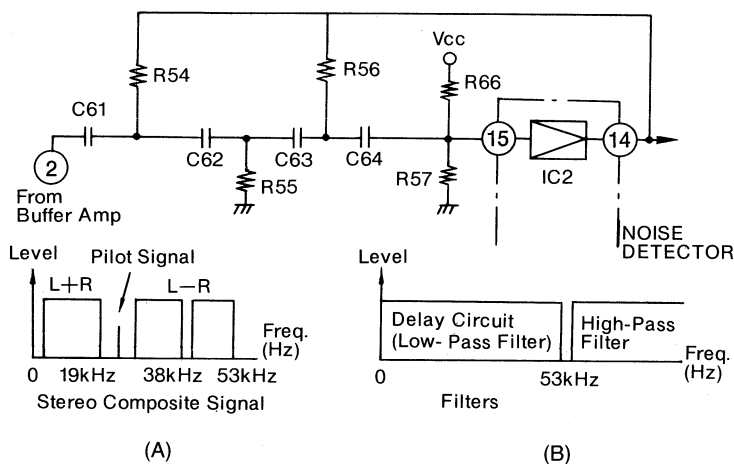

Fig. 22
The high-pass filter, shown in Fig. 22, functions only to pass frequencies higher than the stereo composite signal. This is provided to prevent misoperating the Noise Detector Circuit by the audio signal. This filter has rapid attenuation characteristics in frequencies below the band range. [See Fig. 22 (A) and (B)]